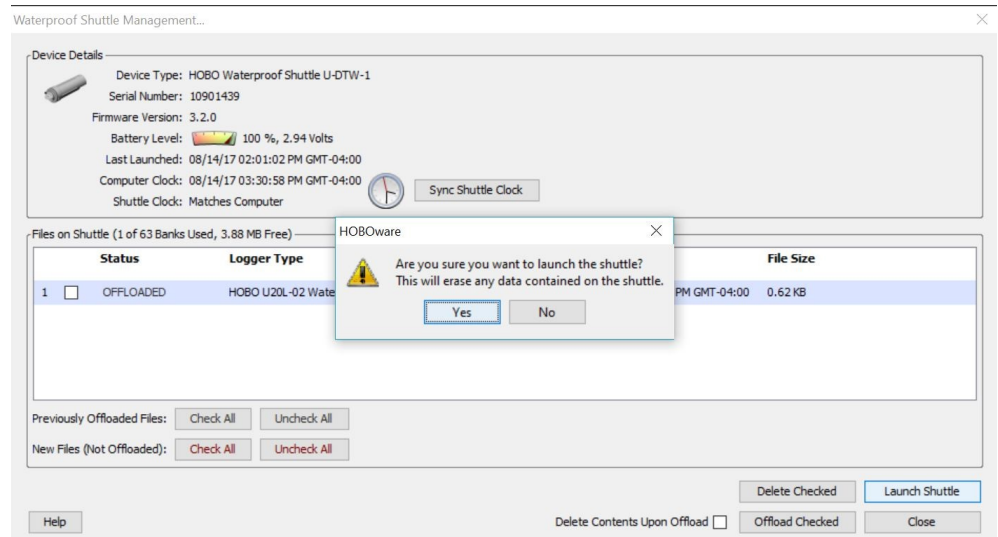

Figure 46. Launch shuttle message
5. After you click Launch Shuttle, a message window may appear asking if you are sure you want to launch the shuttle (Fig. 46). Click YES.